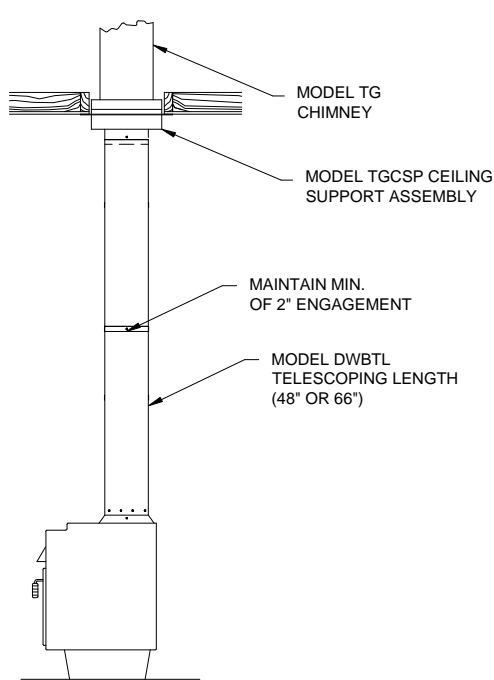

FIG. 1
3. Extend the upper portion of the DWBTL to engage the crimped portion of the chimney ceiling support. Secure with sheet metal screws (See **FIG. 1**).